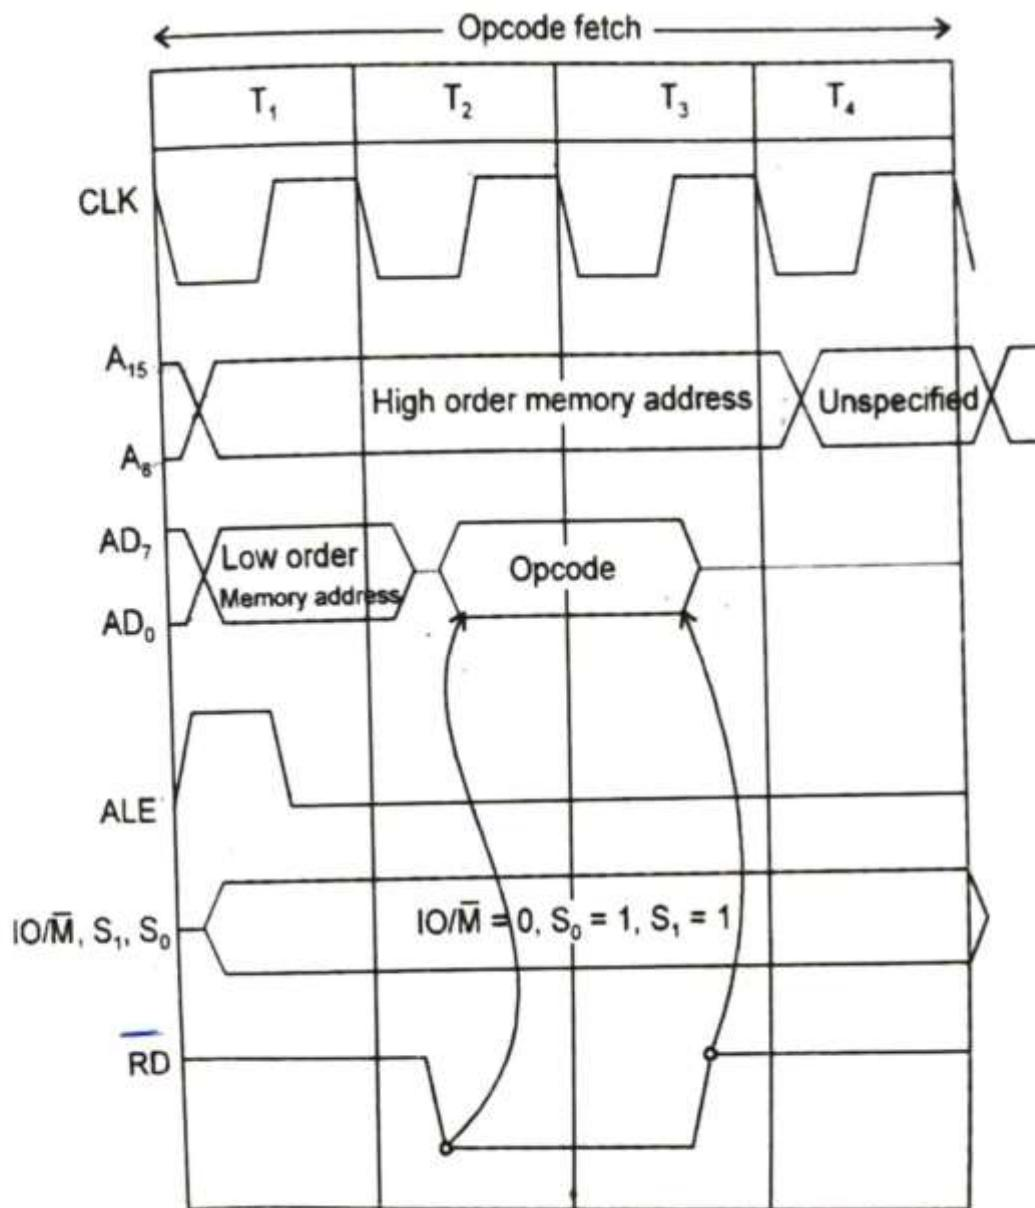

Fig. 7.16 : Timing diagram for instruction `MOV A, C`
Therefore, the timing diagram for the given instruction will be exactly similar to timing diagram of opcode fetch machine cycle. This is shown in fig. 7.16.
Step-1 : The microprocessor places the high order address from program counter (PC_H) to the high order address bus and low order address from program counter (PC_L) to low order address/data multiplexed bus. The ALE signal goes high at the starting of T_1 state to latch the low order address in external latch. ALE signal goes low again at the end of T_1 state. The status signals are $IO/M = 0$, $S_1 = 1$ and $S_0 = 1$. This is shown in T_1 state of timing diagram (Fig. 7.16.)
Step 2 : The control unit sends the control signal \overline{RD} to enable the memory chip. After receiving the \overline{RD} signal, the opcode of the instruction (79H) is loaded to the data bus. This is T_2 state of timing diagram (fig. 7.16).